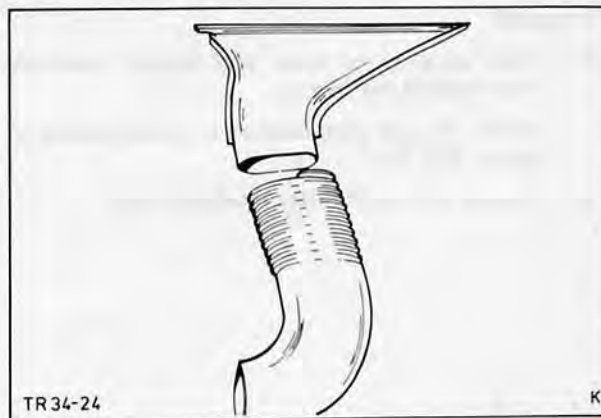

Fig. 27. Pull nozzle off hose
2. Pull the demister nozzle off the hose, Fig. 27.